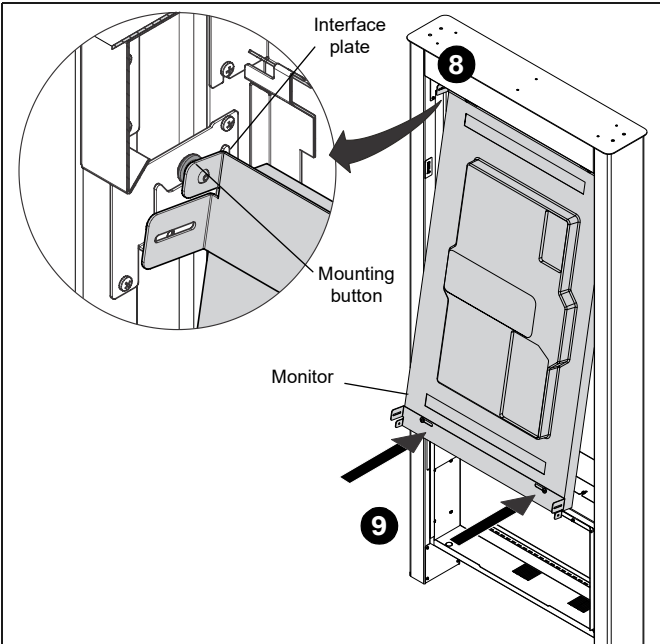

Figure 9
8. Tilt the top edge of the monitor into the kiosk frame (A) and rest the mounting buttons on the upper interface bracket into the recessed areas in upper interface plates.
9. Rotate the bottom edge of the monitor down into the kiosk frame until the long slots in the lower interface brackets line up with the holes in lower interface plates. (See Figure 9)